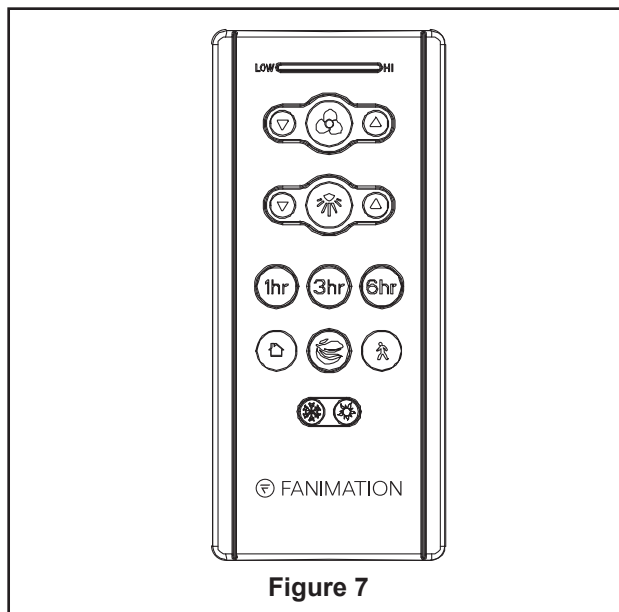

Figure 7
- ☐ 7. Secure the glass to light kit by twisting in a clockwise direction. Twist the glass gradually **until it snaps onto the light kit**. Do not over-tighten. (Figure 7)
9. Remote functions: (Figure 7)